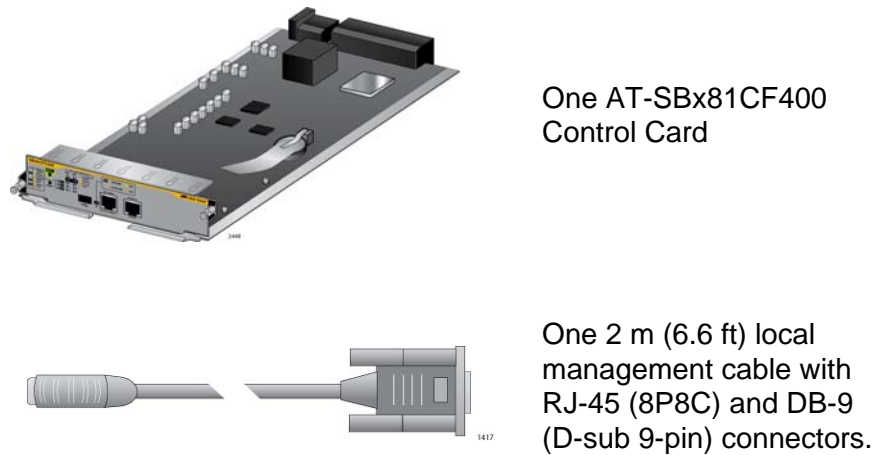

Figure 65. Items Included with the AT-SBx81CF400 Controller Card
2. Remove the new AT-SBx81CF400 Controller Fabric Card from the shipping package and verify the package contents, listed in Figure 65 on page 131.